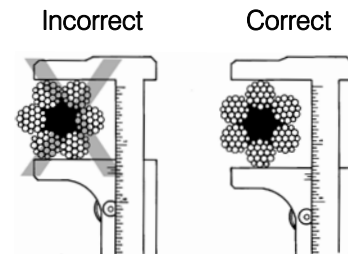

Figure 6-5 Measuring Wire Rope Diameter
*Note* Measure the wire rope diameter only across the crowns of the strands so the true diameter is measured as shown in Figure 6-5.